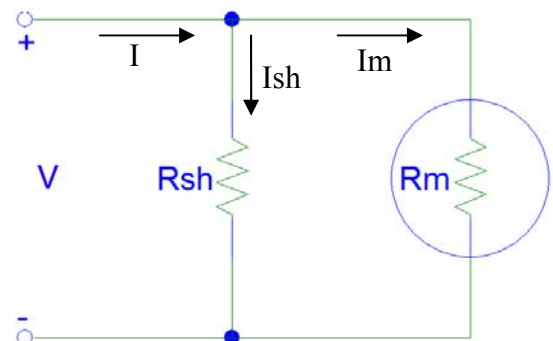

Figure 2 – Ammeter made from galvanometer and shunt resistor.
An improved ammeter that can be made with the galvanometer and a shunt resistor as shown in Fig. 2. The current to be measured is I . We design the ammeter by choosing the desired current range and then
- Design an ammeter having a range of 0-100 mA. Build the ammeter (circuit in Fig. 2), using the resistance box for R_{sh} .